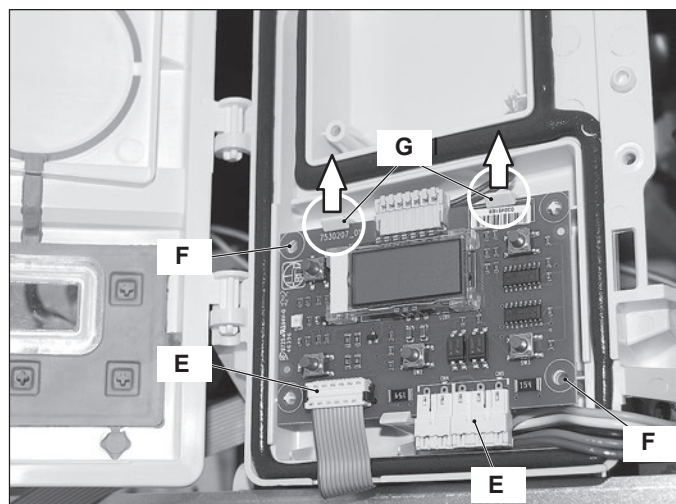

Figure 7.3
- 3 Remove all the wiring "E" connected to the *Control panel electronic p.c.b.* (Figure 7.3).
- 5 Delicately flex the hooks "G" in the directions indicated (Figure 7.3) in order to release the circuit from the box.